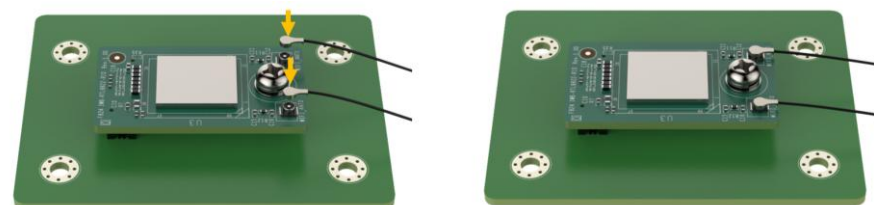

Figure 3-11: Connect Antennas
- Step 7:** Secure the fixing screws and connect antennas (**Figure 3-11**).